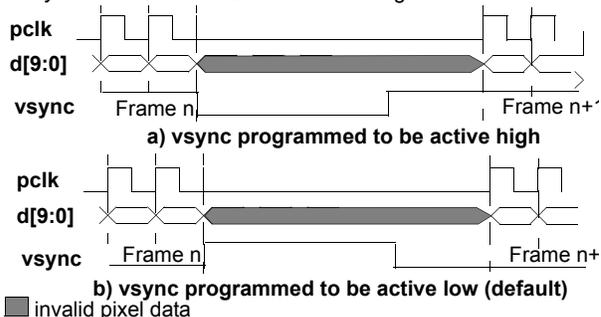

Figure 47. *vsync* in Pulse Mode
- Pulse mode** should be used when the pixel clock, *pclk*, is programmed to operate in *data ready mode*. In pulse mode the *vsync* output pin will produce a pulse at the end of each frame. The width of the pulse will be a minimum of four *hclk* cycles and its polarity can be programmed as shown in Figure 47. The *vsync* level is always synchronized to the active edge of *pclk*. The *vsync* pin is put into pulse mode by setting the *VsyncMode* bit of the *DVBUSCONFIG1* register to a logic 1. The active level of the *vsync* pulse is programmed using the *VsyncPol* bit of the *DVBUSCONFIG1* register.